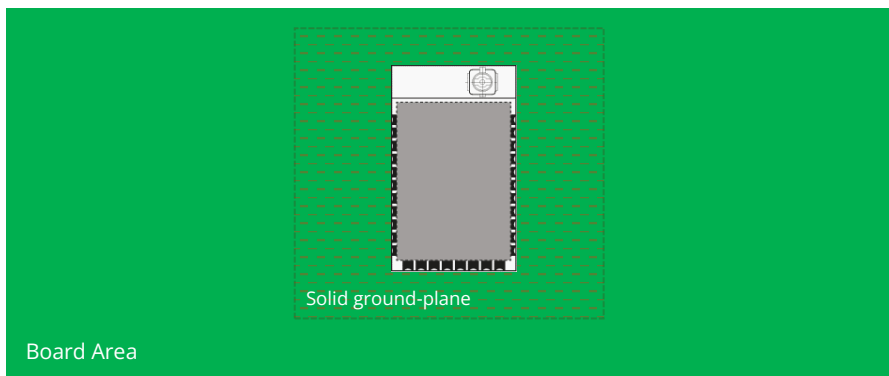

Figure 5 - Placement guidelines for RM-BE1-U device.
- Place the module in the preferred position on the PCB. Module can be entirely placed on the PCB area, as depicted in Figure 5 below.